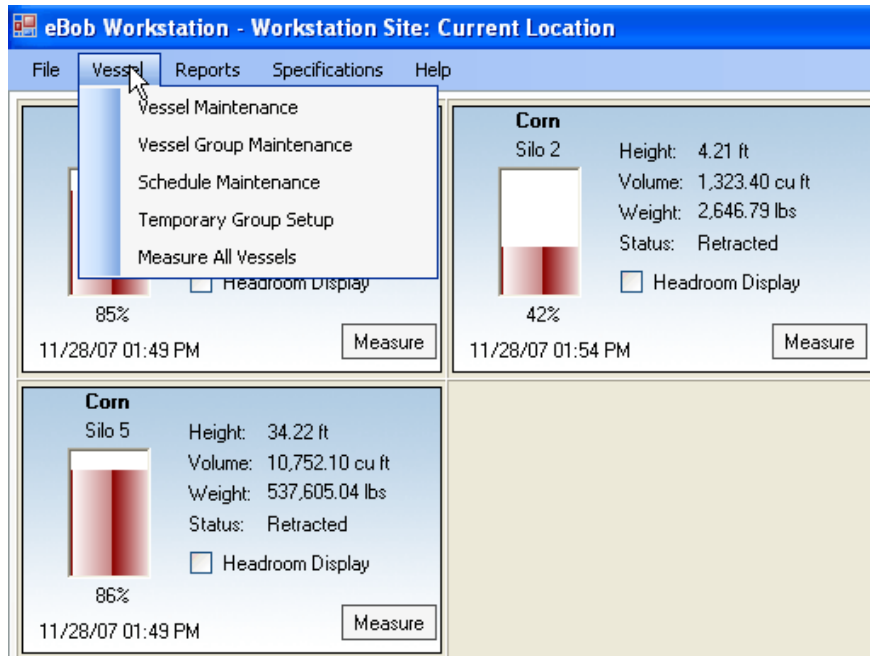

Figure 12
3.2.2 Vessel Menu The Vessel Menu (Figure 12) is the main configuration and control interface for the actual SmartBob sensors and the vessel configuration parameters. Five menu items allow access to the different configuration screens.